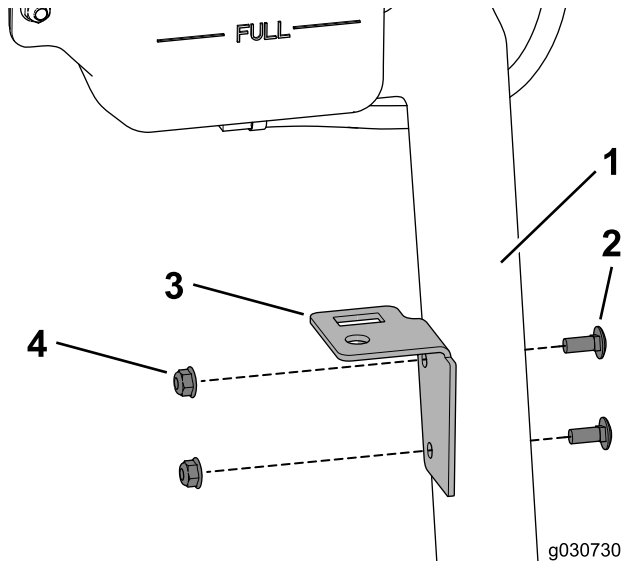

Figure 31
1. Use the 2 carriage bolts and locknuts to secure the tank plate to the coolant-bottle support (Figure 31)